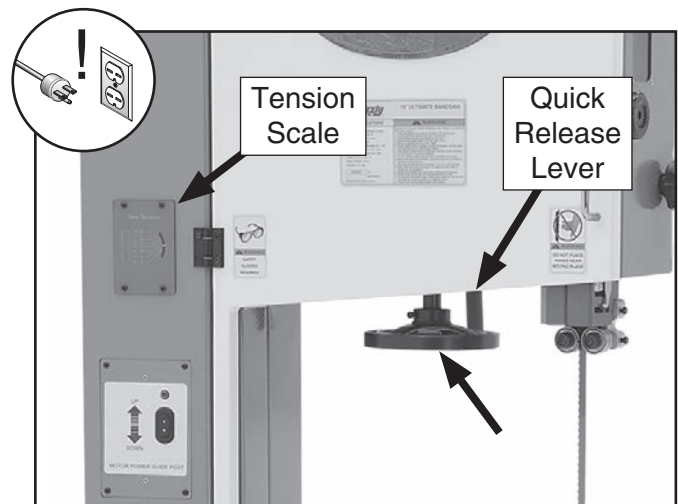

Figure 14. Blade tension controls.
3. Move the blade tension quick release lever all the way right (as viewed from the rear of the machine) to apply tension to the blade (see **Figure 14**).